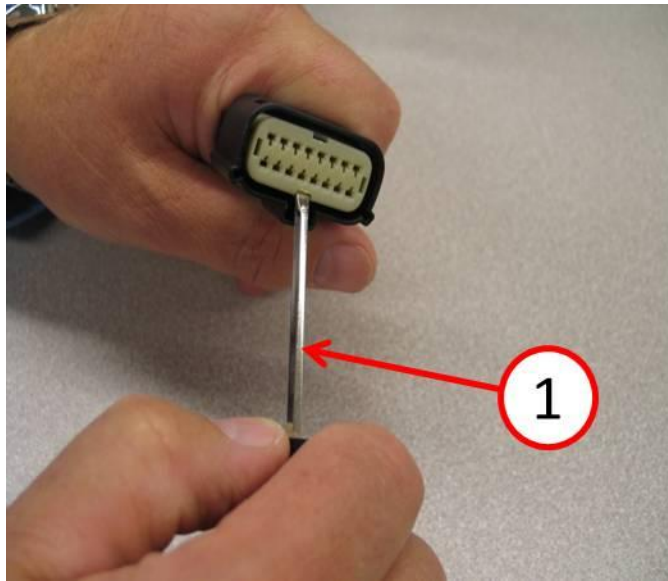
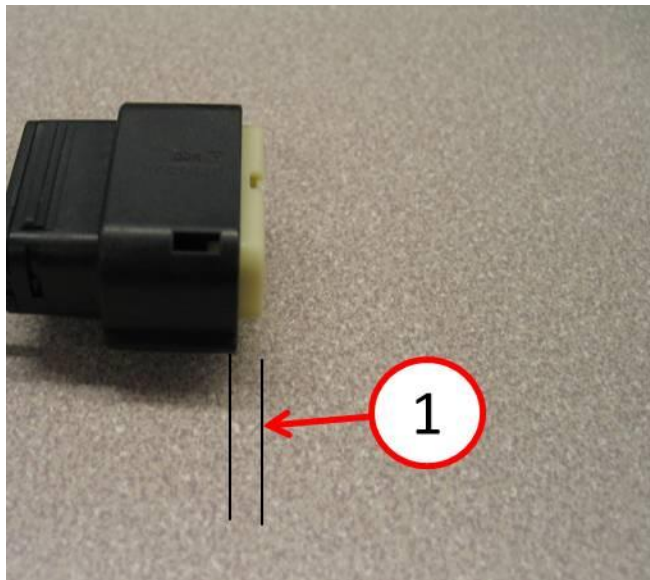

Fig. 3 PRY OUT THE TPA 5MM
Fig. 4 TPA EXTENDED 5MM
5. Using a narrow blade, flat screwdriver (3 mm wide max), pry the white TPA (white cover seen when looking in connector). Notice the travel of white TPA is only 5 mm or until a "click" is heard. This is the release point of the TPA. The TPA is a device that locks the release finger so that when seated, terminal will not and cannot be disengaged, (Fig. 3) and (Fig. 4).